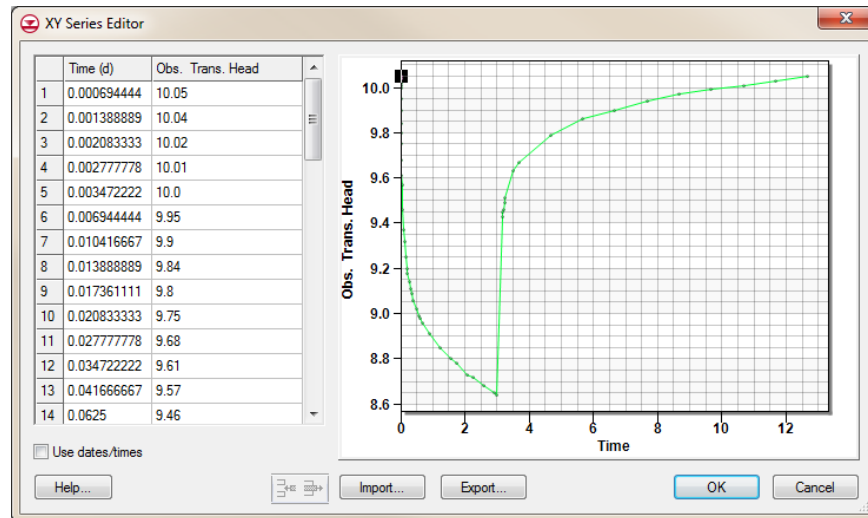

Figure 8 Time series data for well “mw - 3”
9. View the imported time series data clicking the  button in the *Obs. Trans Head* column to bring up the *XY Series Editor* dialog (Figure 8).